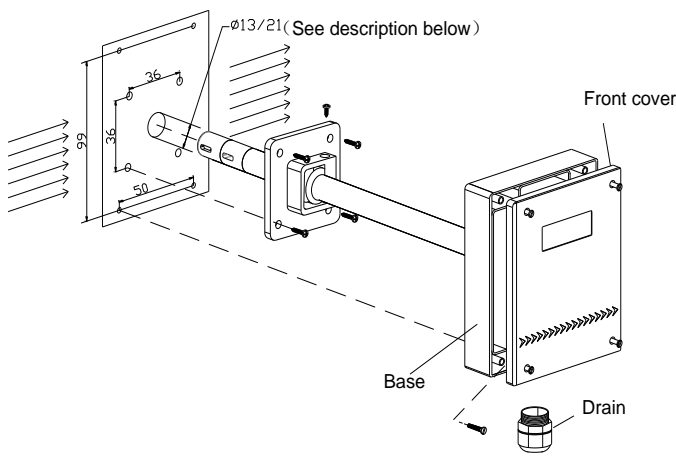

Fig.1
- AVT1 is recommended to be installed with flange. The depth being inserted is adjustable. Install the flange on the duct with 4 screws, and use another screw to tighten the probe with the flange. If installed with flange, open a hole of $\Phi 13$ mm on duct. If do not use flange (not recommended), open a hole of $\Phi 21$ mm (Fig.1) on duct. After installing, the duct hole should be air-tight.